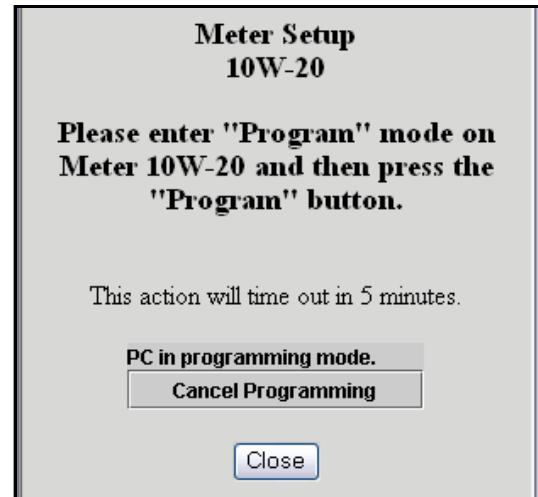

FIG. 88 Meter Programming Screen
2. Click that **Meter's Program Link**. This puts the PC in program mode for that meter. You are prompted with the screen shown in FIG. 88.